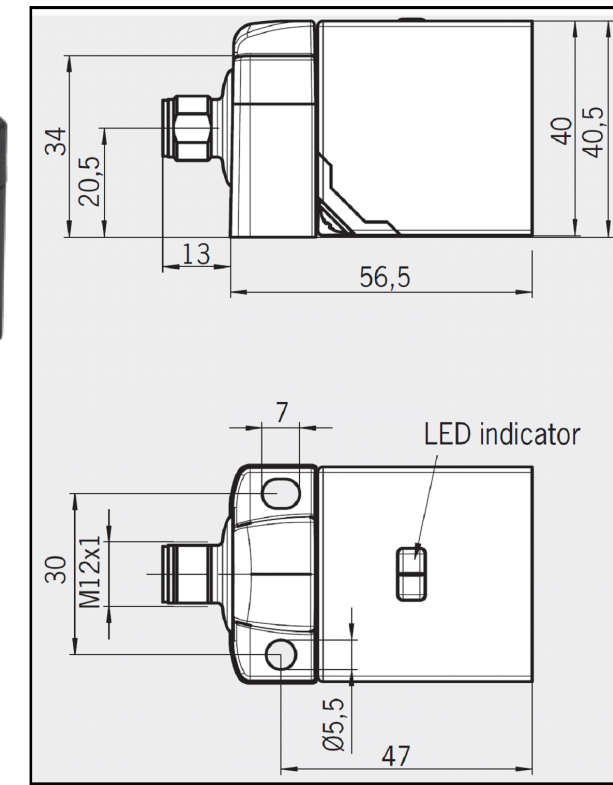

Figure 1: Euchner CES-AP-C01 Series Safety Sensor
10. The 9121-DL8-M module requires the use of a two channel, PL e rated contactless Safety Sensor, specifically, Euchner CES-AP-C01-CH-SB-106798 or CES-I-AP-M-C04-USB-117324 (reference Figures 1 and 2). The Safety Sensor is not included with the DL8 but is available from ATI. The Safety Sensor is powered by 24V US1 current limited (24V_TH) Profinet power.